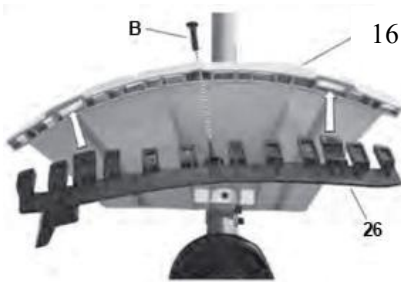

Fig.3-3
1. When using the cutting line head, the additional guard, with line cutting knife, must always be fitted. (Fig.3-3, Fig.3-4)
- Secure the additional guard (26) using the screw (B). (Fig.3-3)